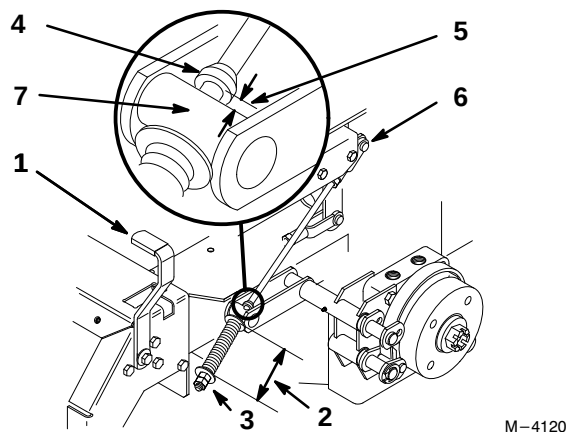

Figure 49
2. Measure the length of the spring. Measurement should be 2.75" (74 mm) between washers (Fig. 49).
3. If adjustment is necessary, loosen the jam nut below the spring and tighten the nut directly below the yoke (Fig. 49). Turn the nut until the correct measurement is obtained. Tighten the two nuts together and repeat on opposite side of unit.
6. Measure the distance between the trunnion roller and the collar on brake rod. Measurement should be 3/16"–1/4" (5–7 mm) (Fig. 49).
7. If adjustment is necessary, loosen the jam nut directly below the yoke. Turn the bottom adjusting nuts until the correct measurement is obtained (Fig. 49). Tighten jam nut at yoke